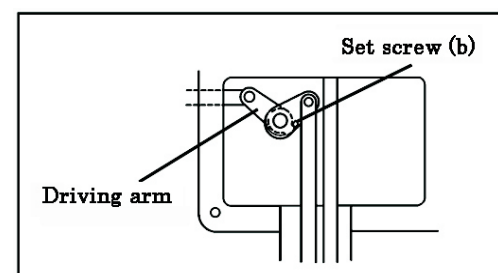

Fig.4
3. Loosen the set screws (b).(Fig. 4)